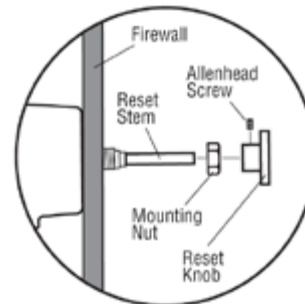

Figure 2
2. If installing the RP75 to an engine compartment firewall, drill a 3/64 in. (15 mm) diameter hole in the firewall (see Figure 2).